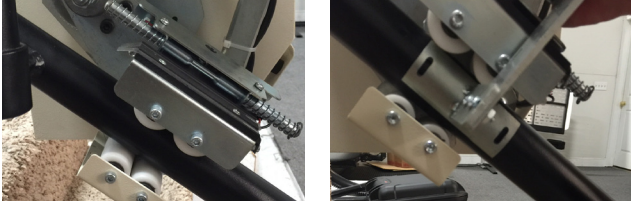

Figure 3-24
1. Locate the chassis to where the mid-station park should be on the rail. *See Figure 3-24.*